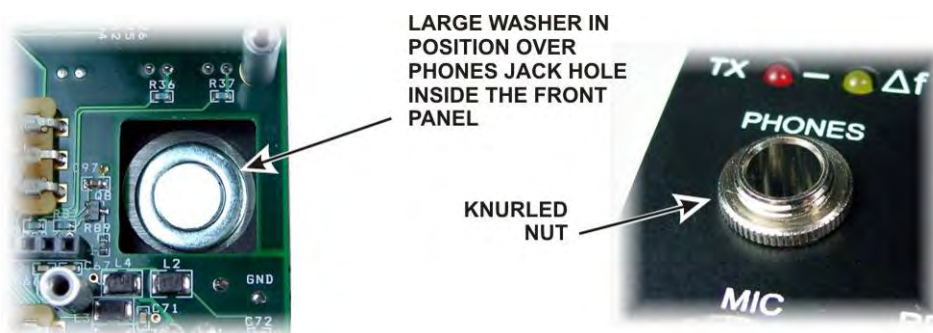

Figure 30. Phones Jack Hardware.
Position the large flat washer on the inside of the front panel over the PHONES jack hole (see Figure 30 on page 28). This is easily done by sliding the washer into place from the end of the front panel.
- Screw the knurled nut onto the threaded shaft of the PHONES jack where it exits the front panel (see Figure 30). Screw it only finger tight. Do not use pliers.